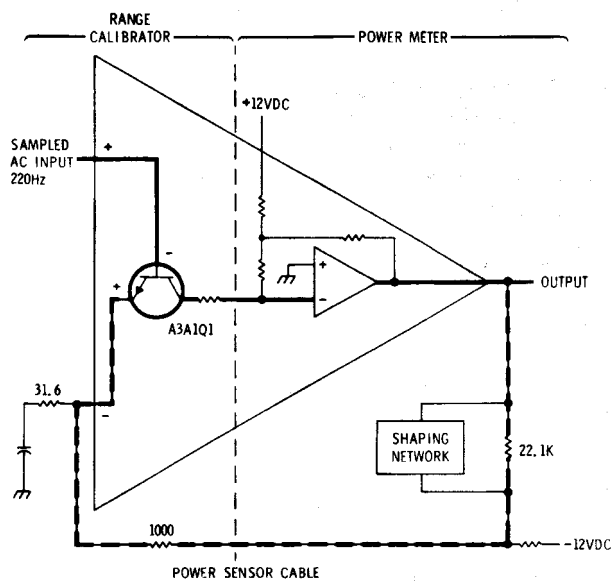

Figure 6-2 Hybrid operational amplifier
- 6 Gently lift the FET Assembly and spacer from the circuit board. Refer to Figure 6-2.
The Input Amplifier and the first amplifier in the Power Meter are the component parts of a Hybrid Operational Amplifier. The Amplifier, which has a gain of approximately 730, is shown in Figure 6-2.